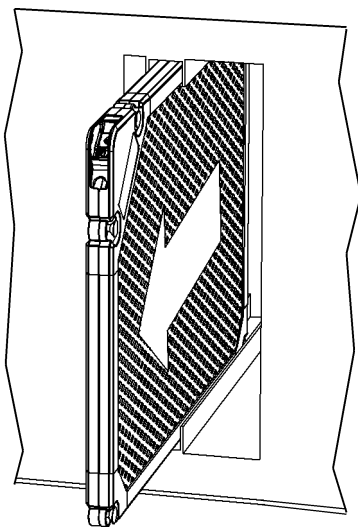

Fig. 4 — Electronic Air Cleaner Removal
3. Remove electronic air cleaner from filter rack. See Fig. 4.